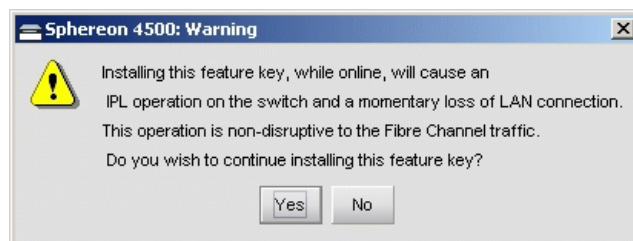

Figure 2-81 Warning Dialog Box
- Click *OK*. If the switch is online, it performs an IPL when the PFE key is enabled and a *Warning* dialog box displays (Figure 2-81).